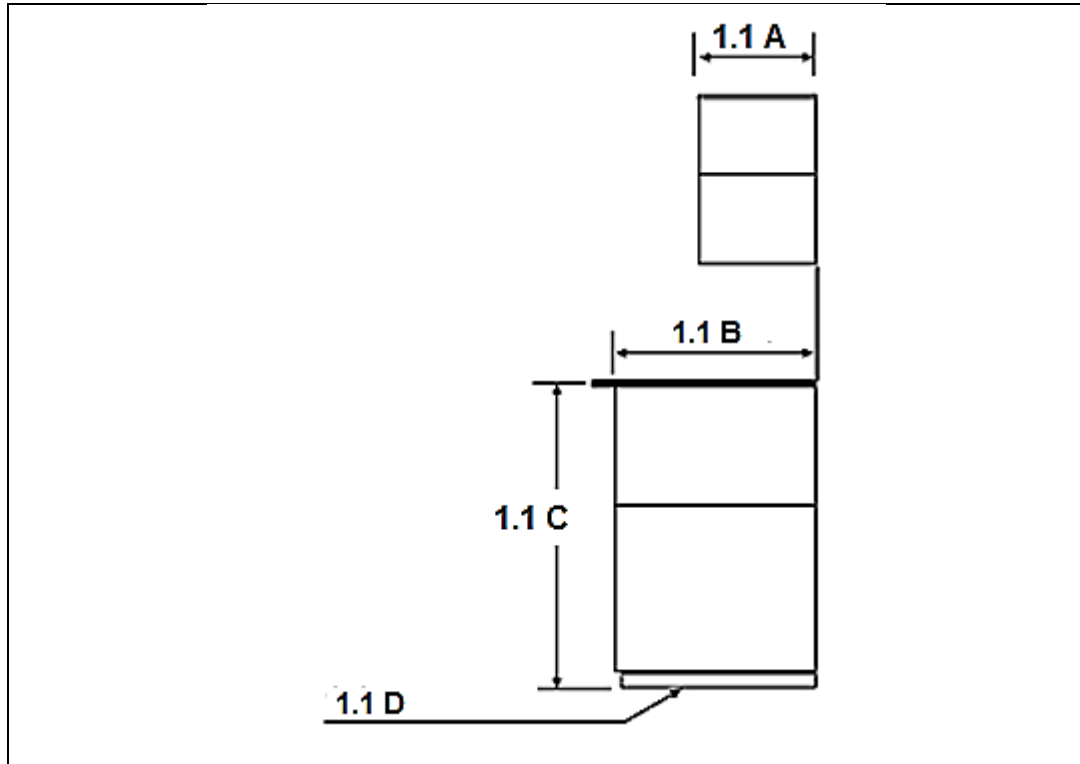

FIGURE 1.1
1.1 A kitchen cupboard must be made so that it is comfortable to use. Answer the following questions with regard to the kitchen cupboard in FIGURE 1.1.